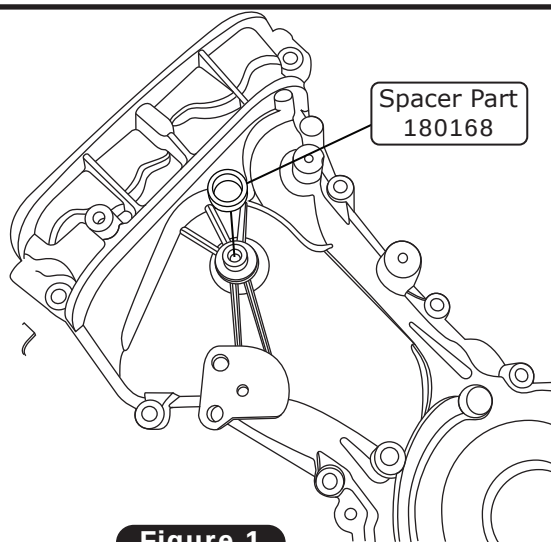

Figure 1
1. As of this writing, three different timing cover configurations have been identified. They differ at the cast boss shown in Figure 1, below. One is left unmachined at the factory and will only need to be drilled and tapped. The second design has been machined with a step and M8 threads. On this design, the M8 threads will need to be drilled out and tapped to 10mm x 1.5, and the spacer (180168) installed over the machined boss. The third design is similar to the second, with the addition of stiffening ribs. These ribs will interfere with the idler pulley and must be carefully cut down to achieve adequate clearance (1/16").